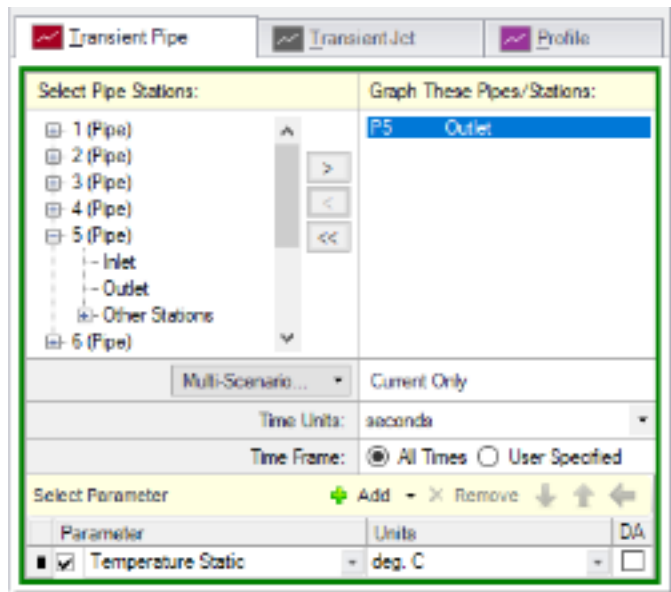

Figure 3.8 Graph Parameters for Combustion Basket #1 Inlet
- **Create a graph that shows the temperature over time at the entrance to Combustion Basket #1** using the following steps (Figure 3.8):